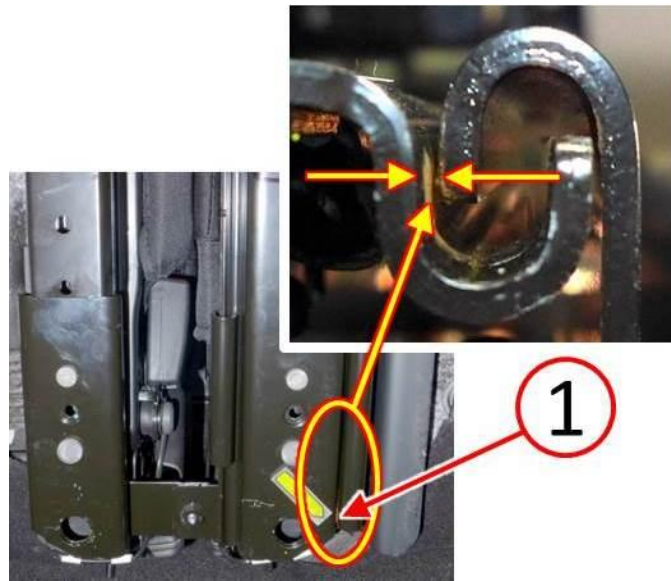

Fig. 2 Inspect Gap At The 60 Percent Inboard Side
8. Examine the rearward portion of the 60 percent side inner seat track for a “V” shaped gap with a touch condition at the rear lower edge of the seat track (Fig. 2).